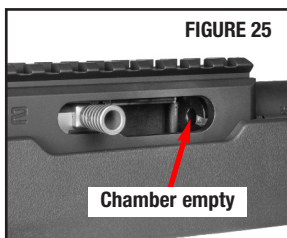

FIGURE 25
- Check chamber to be sure no cartridges are visible (FIGURE 25).